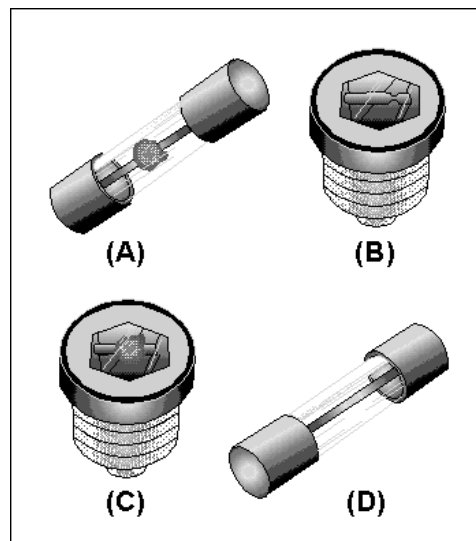

Figure 2-6.—Fuse recognition.
*Q9. Label the fuses shown in figure 2-6 according to type.*
*Q10. Identify the open fuses shown in figure 2-6.*